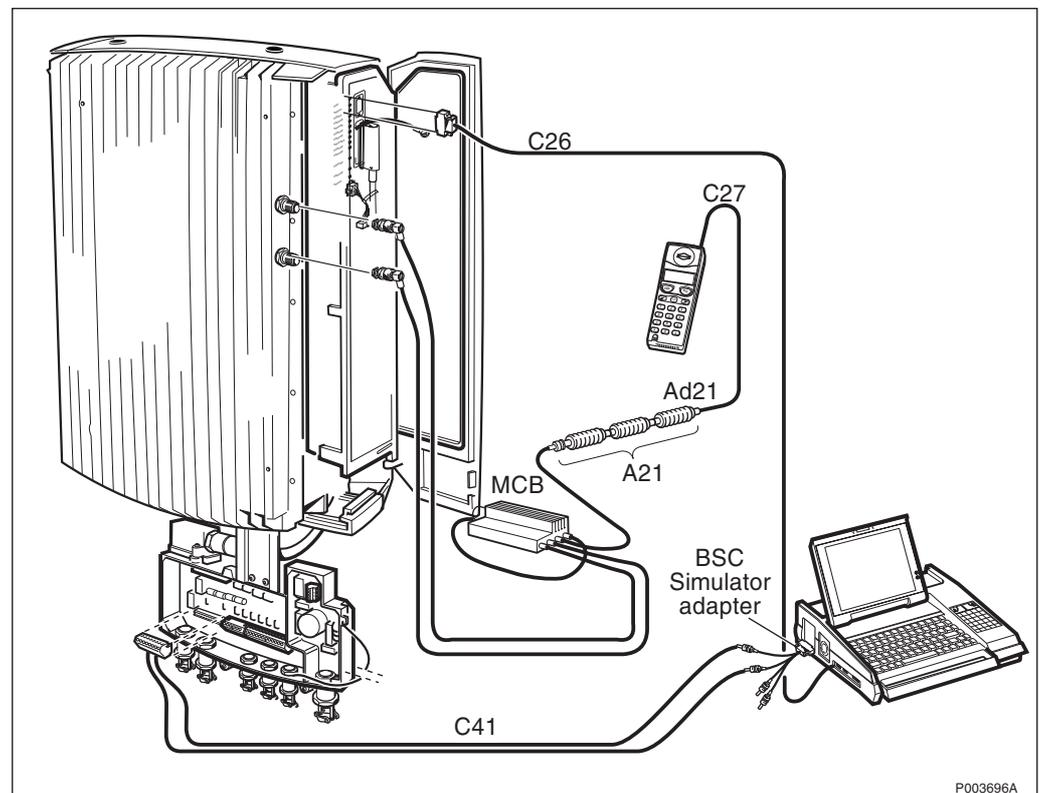

Figure 358 Test setup using BSC simulator: 2 TRX Sector and Highway configuration, T1 100  $\Omega$  (1.5 Mbit/s) and E1 120  $\Omega$  (2.0 Mbit/s)
2. Connect the BNO connector on cable C41 to the BNO connector on the BSC Simulator adapter, and connect the C41 cables plug to the PCM A socket in the interface box, *see Figure 358 on page 329*.